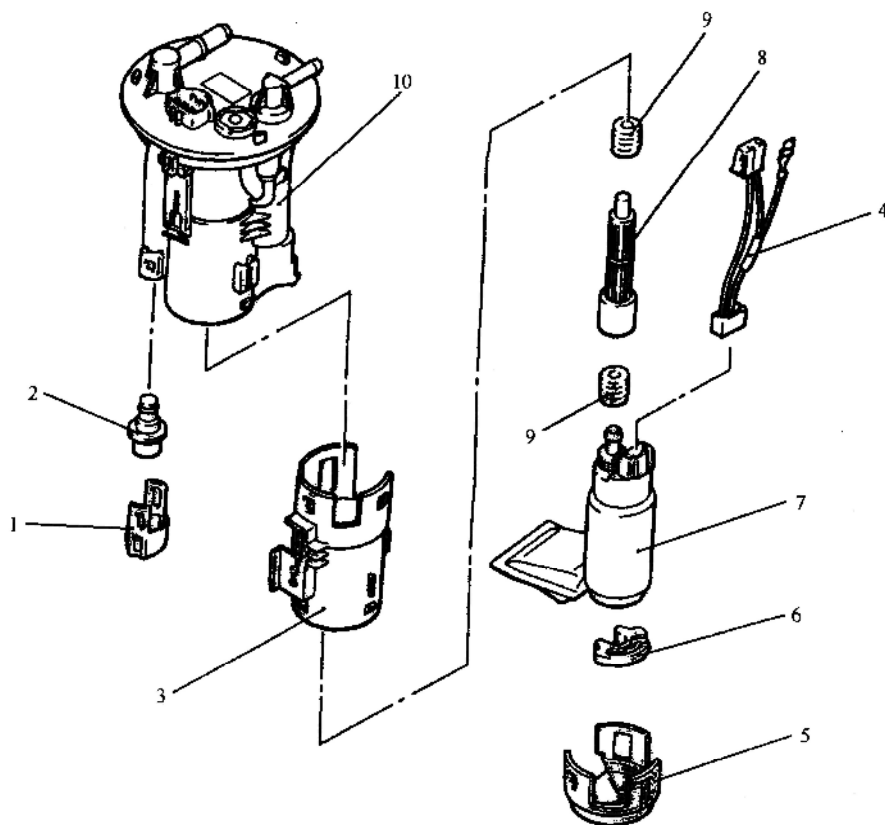

Fig. 6-4
1. REVERAL AND INSTALLATION (see Fig.6-4)